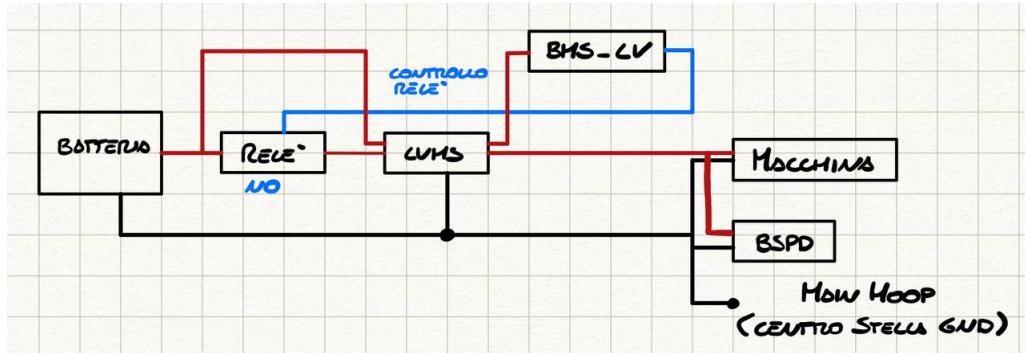

Figure 8: Low voltage scheme
**Comment:** this is possible when we turn off the master switches. These switches, in fact, are used to provide the car with the low voltage needed to start the ready-to-drive sequence. If anything happens or if we just want to disable the low voltage in the car, we can do that turning off these LVMS. Looking at Figure 8, it is necessary to notice that the LVMS have two "inputs" that are the positive pole got directly from the battery and the positive pole received instead from the relay. As it will better explained in the Relay board documentation, if the coil is not closed, the connection relay->LVMS is interrupted, hence the LVMS only receives the supply voltage from the battery and then it goes to the BMS LV board, but, since the connection to the relay is now broken, the LVMS won't be able to supply the vehicle with the low voltage since there is no more a link between them (while the BMS LV board will still be on).